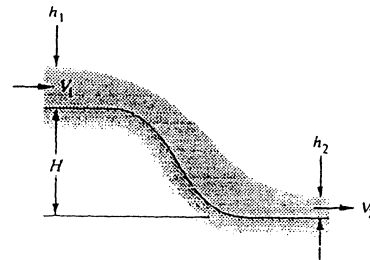

Fig. P3.177
**3.177** For the water-channel flow of Fig. P3.177,  $h_1 = 1.5$  m,  $H = 4$  m, and  $V_1 = 3$  m/s. Neglecting losses and assuming uniform flow at sections 1 and 2, find the downstream depth  $h_2$ , and show that *two* realistic solutions are possible.